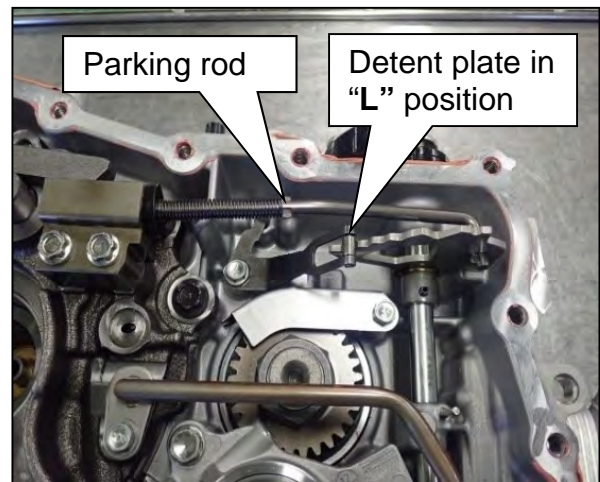

Figure 75
- o The detent spring should be aligned with the leftmost concave of the detent plate (Figure 75).